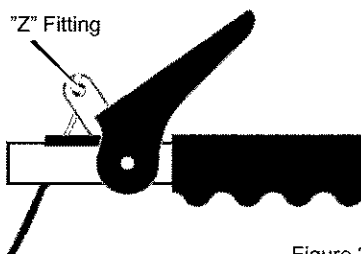

Figure 23
**To check for correct adjustment, unhook "Z" fitting at clutch lever (see Figure 23).**
5. Disconnect the "**Z**" fitting from the **drive lever** (see Figure 23).
11. Install the "**Z**" hook to the **traction drive lever** (see Figure 23).